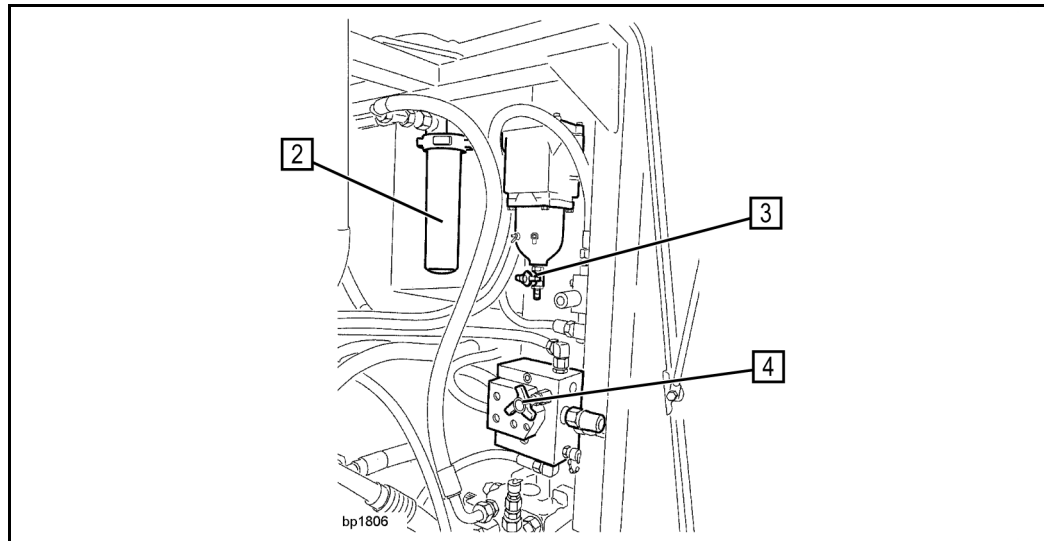

Fig. 48 Maintenance flaps on left in direction of travel
Reduce the stroke rate of the concrete pump as far as possible using the pressure reducing valve (4) (Fig. 48).